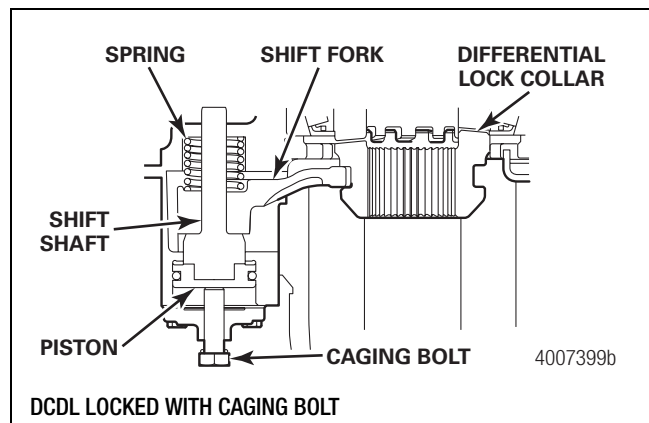

Figure 20
- Remove the shop air from the DCDL lock cover and install the DCDL caging bolt. Check to see that the DCDL teeth are engaged with the main differential case teeth while engaging the caging bolt. Do not exceed 50 lb-in (7 N•m) when tightening the caging bolt. When installing the carrier, leave the caging bolt in until the axle shafts are installed. Also, it is necessary to cage the DCDL when removing the carrier. Figure 20.